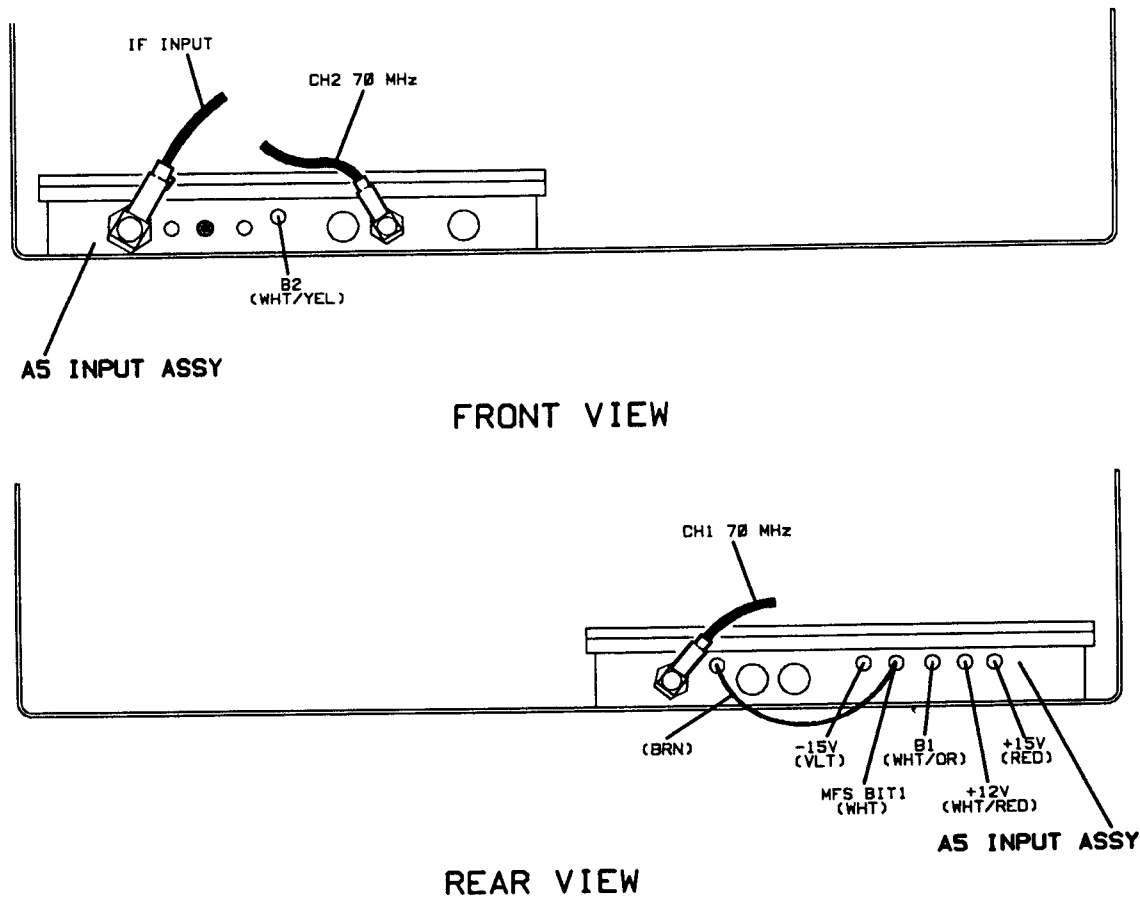

Figure 2-4. Input Assembly Connections
6. If more than one module is suspected, remove the instrument's cover and measure the power level out of the Input Module. This will be CH1 70 MHz and CH2 70 MHz for the standard options models and CH1 140 MHz and CH2 140 MHz for Option 140 (Refer to figure 2-4). Set the Notch Frequency to the center of the band that you wish to measure (70 MHz or 140 MHz). When in Min Phase mode, the Channel 2 signal level will be approximately 6 dB greater than the power level input to the instrument, and the Channel 1 signal level will be >30 dB less than the Channel 2 signal (-30 dB for example).